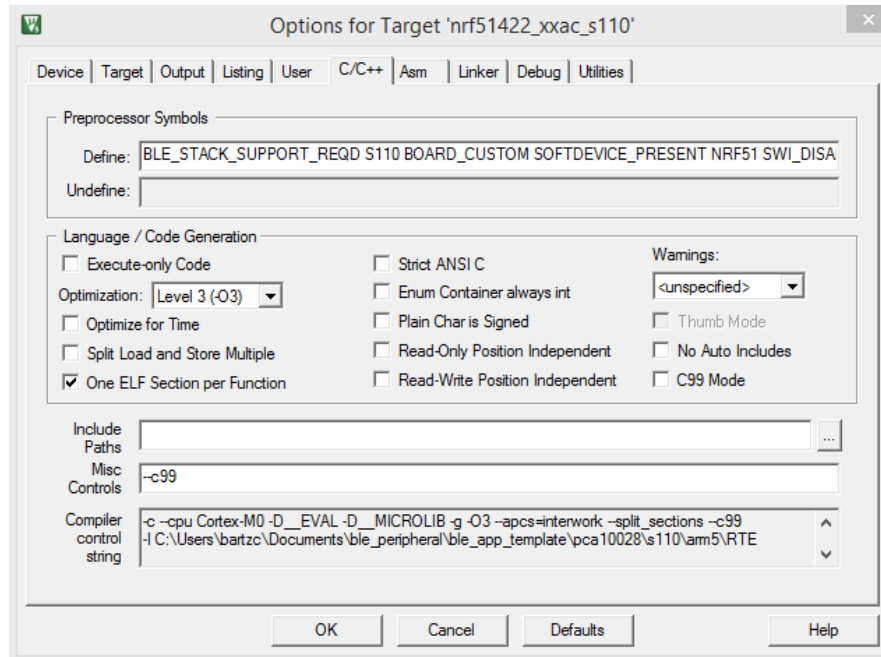

Figure 7- Keil Flash Tools Target window
- Go to the 'C/C++' tab, and in the field marked 'Define' change "...BOARD\_PCA10028" to "...BOARD\_CUSTOM" as shown in Figure 7. This ensures the board support file downloaded in section 5.3.2 is used in place of the default development board)